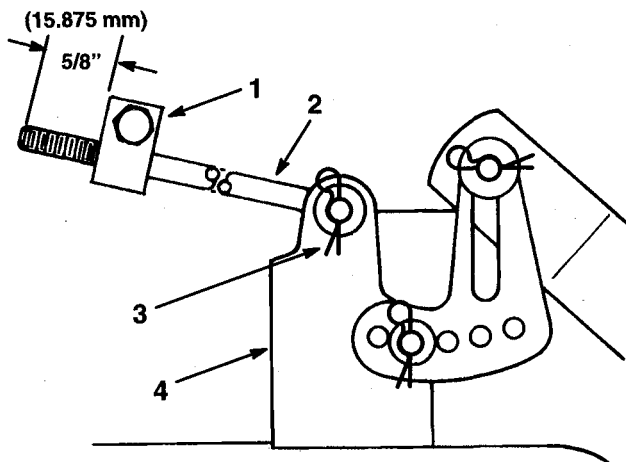

Figure 52
6. Measure the length of the rod extending out the front of the adjusting block on the sides of the chassis (Fig. 52). If the rod length is not 5/8" (15.875 mm), remove the hair pin cotter and washer from the end of the rod (Fig. 52), and turn the rod until the 5/8" (15.875 mm) dimension is obtained. Then install the end of the rod into the hole in the mower mount and secure in place with washer and hair pin cotter. Repeat this procedure on the opposite side of the mower.
8. Raise or lower the front of the mower by adjusting the length of the long rod and reinstalling it in the mower mount with the washer and hair pin cotter (Fig. 52). Adjust one side, then the other. After adjusting both rods, check the front-to-rear slope again. Continue to adjust the rods one turn at a time until the front of the mower is 1/8" to 3/8" (3.175 mm to 9.525 mm) lower than the rear of the mower.